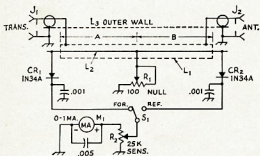

Fig. 1—Schematic diagram of the WICER Varimatcher. Capacitors are 1,000 volt disc ceramic and values are in pF.
R.f. from the transmitter is applied to the bridge at J1, Fig. 1. The current flows along L1 and out through J2 to